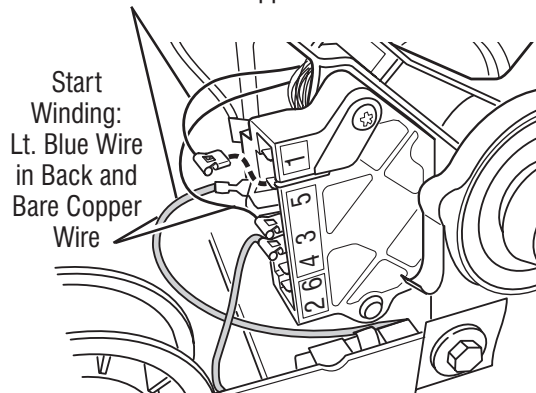

Figure 9a - Main and start winding measure points.
9. Remove the bare copper wire terminal from pin 5 of black drive motor switch. See figure 9a.
10. Using figure 9a and the strip circuit on page 24, check for the resistance values of the motor's Main and Start winding coils as shown in the following table.